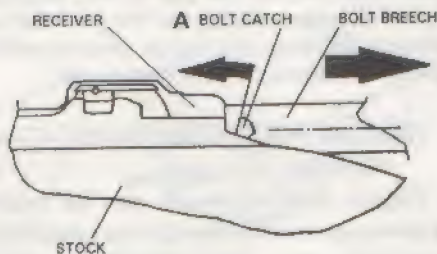

FIGURE 4
5. Depress bolt stop (see Fig.4, pos. A) and remove bolt by moving it rearward. 6.
2. Press bolt stop (see Fig. 4, pos. A) and pull the bolt rearward out of the receiver.
- b) press disassembly catch at the left rear of the bolt (Fig. 4., pos.B), keep it pressed and at the same time continue to open the bolt
- c) press bolt stop (Fig.4, pos. A) and pull the bolt rearward out of the receiver